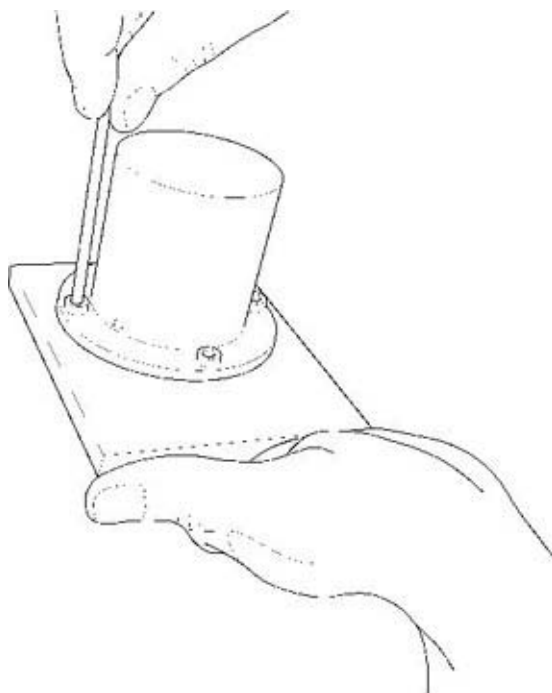

Fig. 5-15 Removing encoder mounting screws
7. See Figure 5-15. Remove the encoder mounting screws.